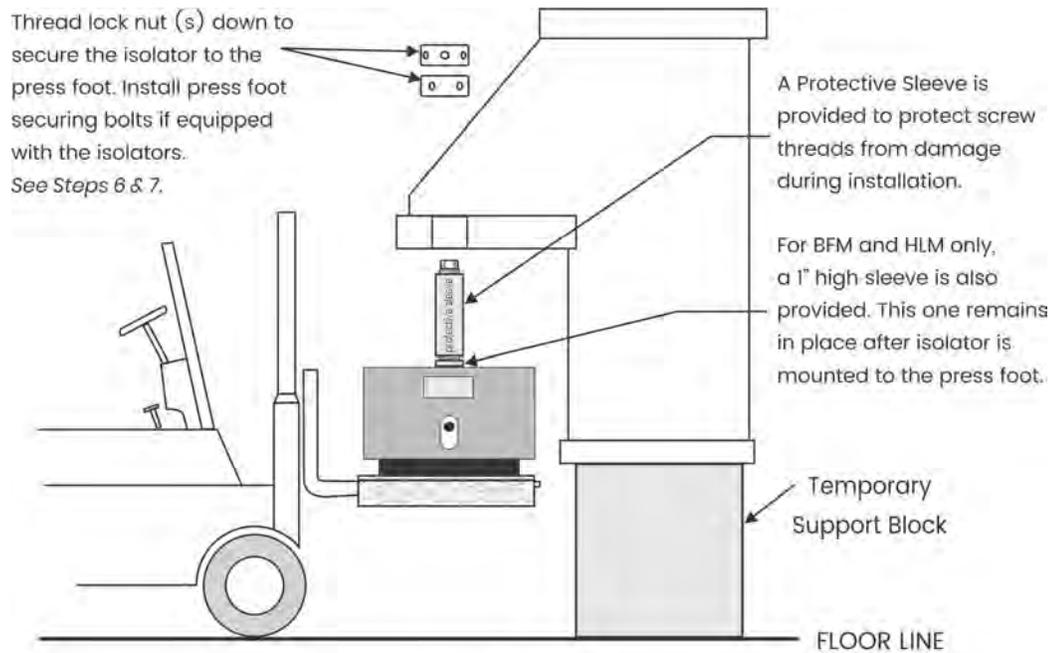

FIGURE 10
The isolators can be installed while blocks support the press bed. The isolators can be carefully lifted into position using a forklift as shown in Figure 10. As an alternative, an overhead crane may be used by inserting hoist rings of sufficient strength into the tapped holes in the sides of the isolator housings. See Table 3, page 5 for hoist ring size details.
5. Position the isolator directly under the mounting hole in the press foot and then lift the isolator slowly, using caution to prevent the leveling screw being damaged by hitting or scraping the inside of the mounting hole (using the protective sleeve will help protect the threads). See Figure 10.